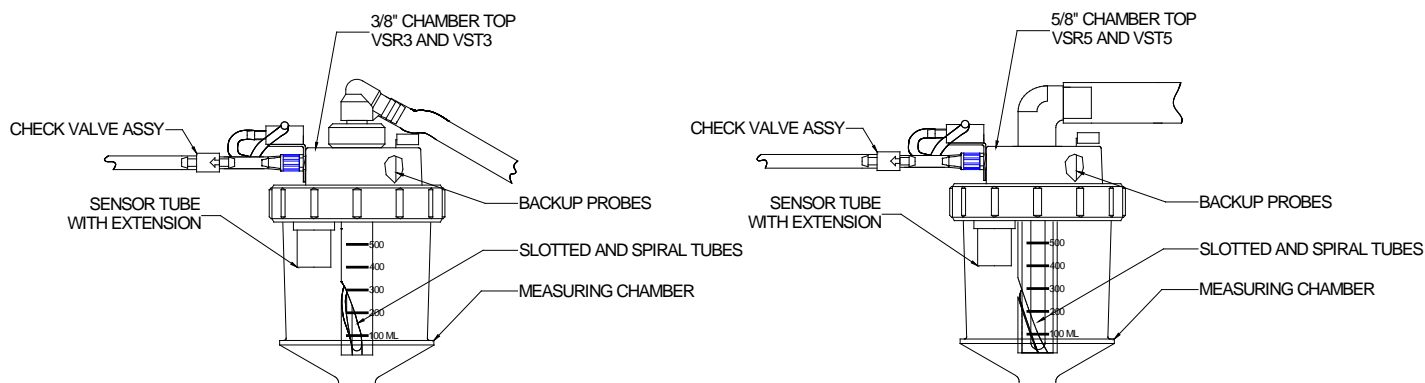

Figure 1.
1. The 5/8" intake chamber top, used on the VSR5 and VST5 samplers, has been redesigned to be similar to the 3/8" chamber top. See Figure 1. The new part number for the 5/8" chamber top is MS885801. The old 5/8" chamber top, part number MS885800 is obsolete and no longer produced. Besides the interior diameter of the intake hose, the main difference between the 5/8" chamber top and the 3/8" version is that it is necessary to remove the chamber top to adjust the sampler volume by turning the spiral tube. See Figure 1.